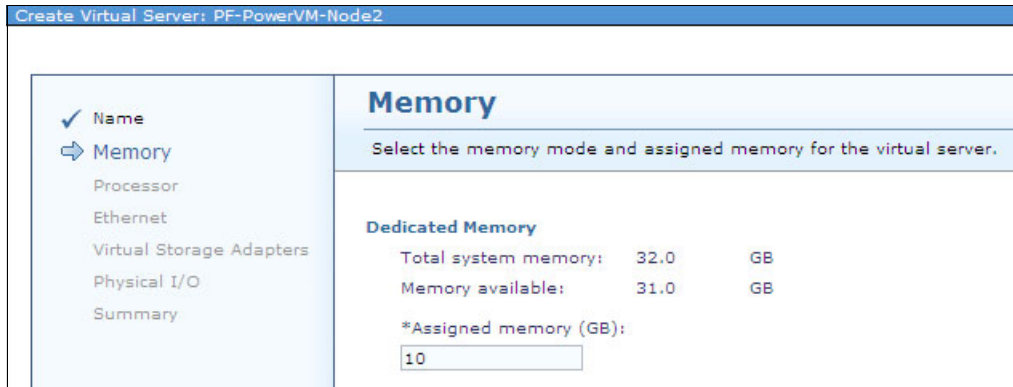

Figure 10-8 Creating the VIOS profile: Memory
6. Define the VIOS memory size, as shown in Figure 10-8.